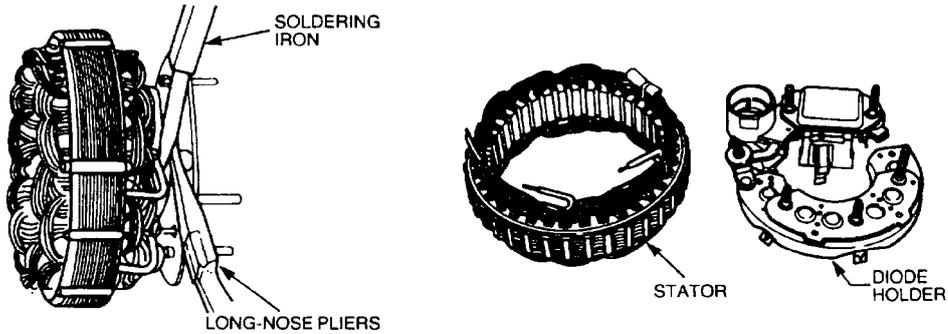

Figure 291 Removing the Diode Holder
- (6) Hold the lead wire connecting the stator coil to the diode with long nose pliers and melt the solder connection with a soldering iron (Figure 291). When using a soldering iron to separate the diodes from the stator coil always hold the lead wire with long nose pliers to act as a heat sink and prevent the diodes from overheating and malfunctioning.